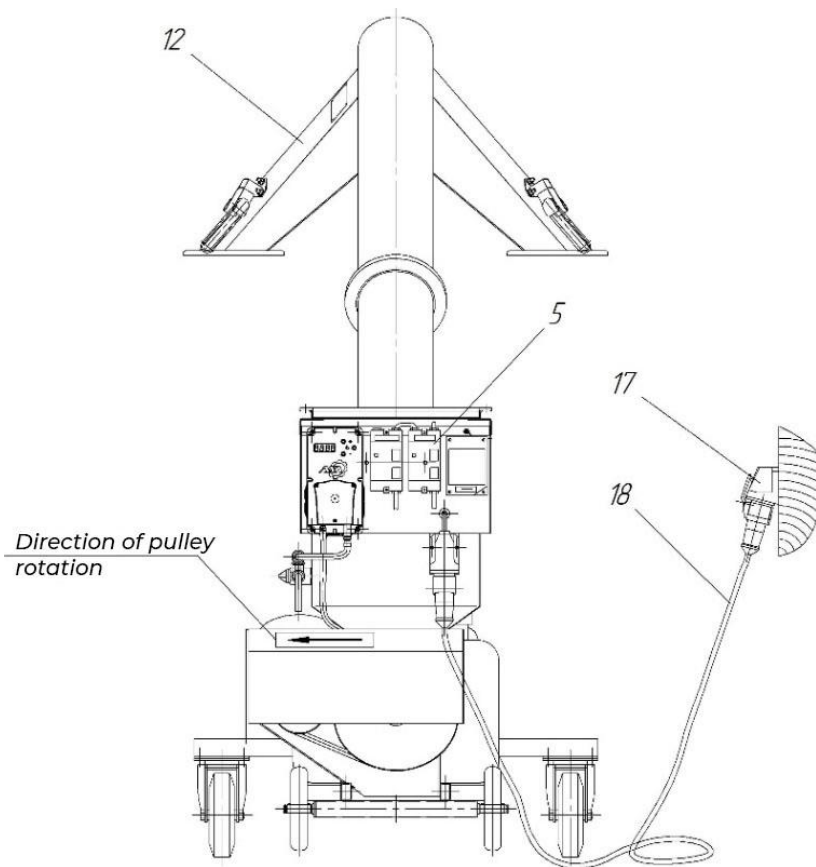

Figure 4.2
5.5 Connect the power cable (18, see Figure 4.2) and the fixed seat (HS-16 A) (17) to the machine and the power supply source as follows: